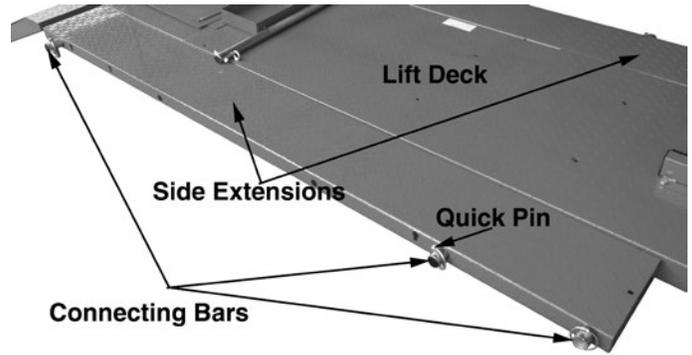

Fig. 2
1. See fig. 2 to assist you in the process of this installation. Insert two of the long connecting bars into the 2 sets of large holes on the side of the lift deck. If you are using the front extension you will use all three long connecting bars. Center the bars between the lift deck.